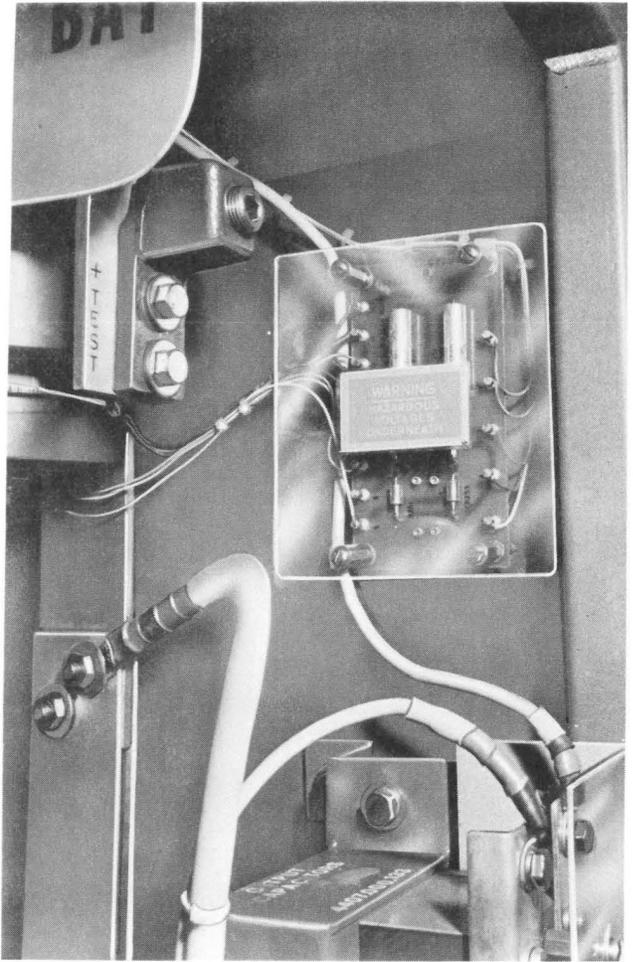

Fig. 7—Circuit Pack 250-DCCT Circuit
(1) Operate POWER ON/OFF (S2) switch to OFF.
(2) Operate DC OUTPUT (S1) switch to OFF. See 4.08, Caution 3.
(3) Remove protective shield from CP-250. See figure 7.
(4) With a KS-14510 (VOM) take the following measurements.